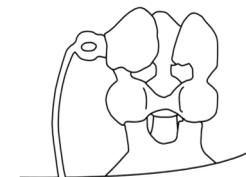

Fig. 3
4. Sprue the abutments. It is strongly recommended that you create a gas vent off the outer part of the ERA female ring (Fig. 3). This will ensure a dense casting. Attach an 18 or 20 gauge round wax rod to the outside of the ring farthest from the crown pattern. Connect the other end of the wax rod to the flat area of the sprue base. Do not connect to the button area since the vent would then fill with alloy. A blind "vent" is of little use in this application.